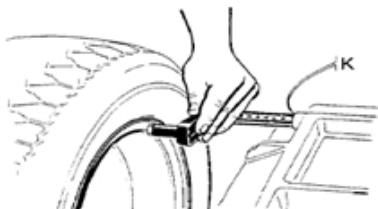

Fig.1
- set “a” value : move the gauge to measuring position as illustrated as Fig.1, hold the gauge still in position for approx. 4 seconds, successful memorization is given, then return the gauge to position